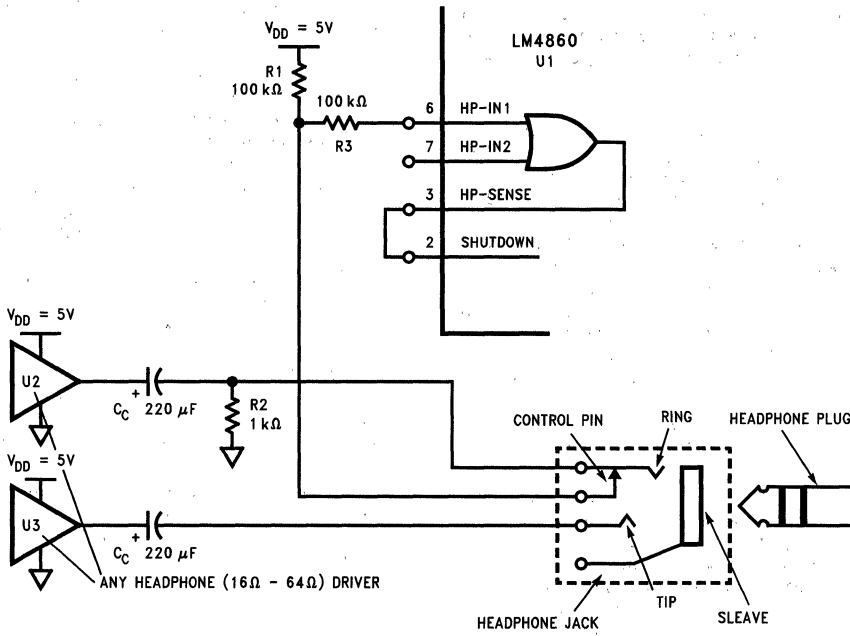

FIGURE 5. Typical Headphone Control Input Circuitry
*Figure 5* shows the implementation of the LM4860's headphone control function using a single-supply headphone amplifier. The voltage divider of R1 and R2 sets the voltage at the HP-IN1 pin to be approximately 50 mV when there are no headphones plugged into the system. This logic-low voltage at the HP-IN1 pin enables the LM4860 to amplify AC signals. Resistor R3 limits the amount of current flowing out of the HP-IN1 pin when the voltage at that pin goes below ground resulting from the music coming from the headphone amplifier. The output coupling cap protects the headphones by blocking the amplifier's half-supply DC voltage. The capacitor also protects the headphone amplifier from the low voltage set up by resistors R1 and R2 when there aren't any headphones plugged into the system. The tricky point to this setup is that the AC output voltage of the headphone amplifier cannot exceed the 2.0V HP-IN1 voltage threshold when there aren't any headphones plugged into the system, assuming that R1 and R2 are 100k and 1k, respectively. The LM4860 may not be fully shutdown when this level is exceeded momentarily, due to the discharging time constant of the bias-pin voltage. This time constant is established by the two 50k resistors (in parallel) with the series bypass capacitor value.
When a set of headphones are plugged into the system, the contact pin of the headphone jack is disconnected from the signal pin, interrupting the voltage divider set up by resistors R1 and R2. Resistor R1 then pulls up the HP-IN1 pin, enabling the headphone function and disabling the LM4860 amplifier. The headphone amplifier then drives the headphones, whose impedance is in parallel with resistor R2. Since the typical impedance of headphones are 32 $\Omega$ , resistor R2 has negligible effect on the output drive capability. Also shown in *Figure 5* are the electrical connections for the headphone jack and plug. A 3-wire plug consists of a Tip, Ring, and Sleeve, where the Tip and Ring are signal carrying conductors and the Sleeve is the common ground return. One control pin contact for each headphone jack is sufficient to indicate to control inputs that the user has inserted a plug into a jack and that another mode of operation is desired.
For a system implementation where the headphone amplifier is designed using a split supply, the output coupling cap,  $C_C$  and resistor R2 of *Figure 5*, can be eliminated. The functionality described earlier remains the same, however.